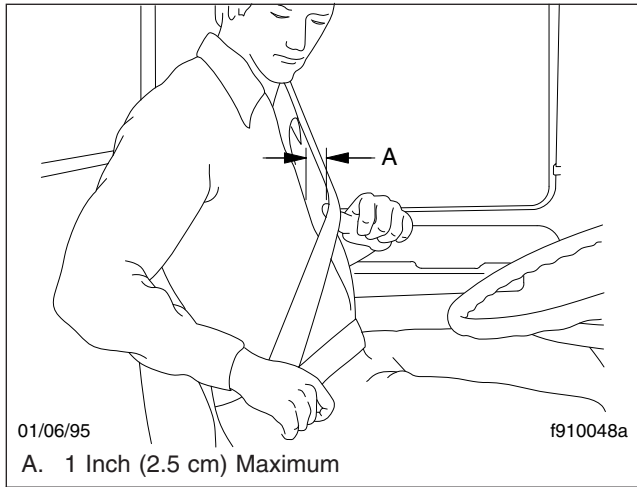
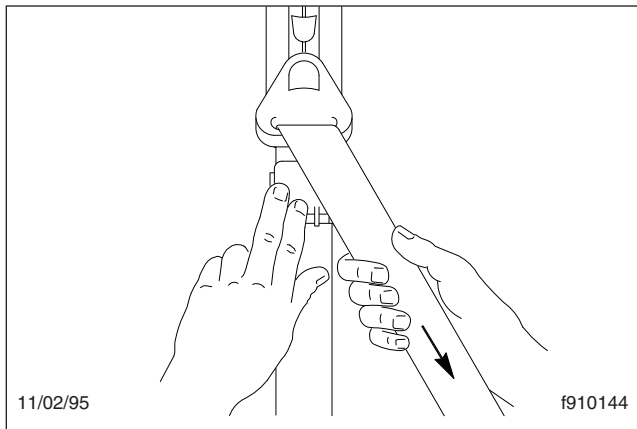

Fig. 7.11, Adjusting Shoulder Harness Clearance, Komfort Latch
Fig. 7.12, Locking the Komfort Latch
*If equipped with a Komfort Latch, pull on the shoulder strap to lessen the pressure of the strap on your shoulder and chest. Allow no more than 1 inch (2.5 cm) of slack between your chest and the shoulder harness. More slack can significantly reduce the seat belt effectiveness in an accident or a sudden stop. While holding the belt slack, press the Komfort Latch lever up, clamping the seat belt webbing (**Fig. 7.11** and **Fig. 7.12**).*